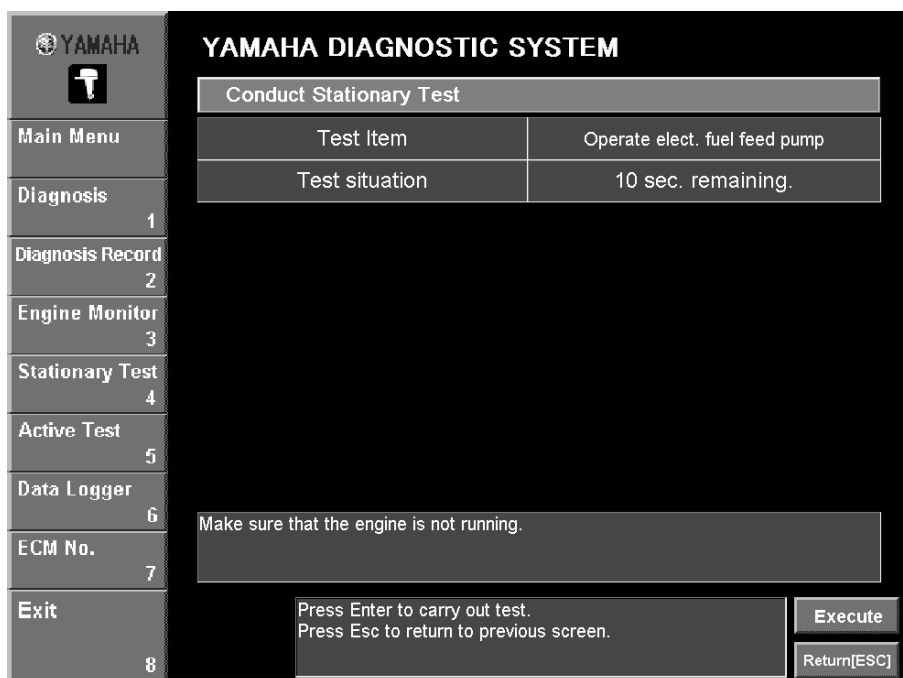

Fig. 37
2. Click the **Execute** button or press the Enter key on your keyboard. (Fig. 37)